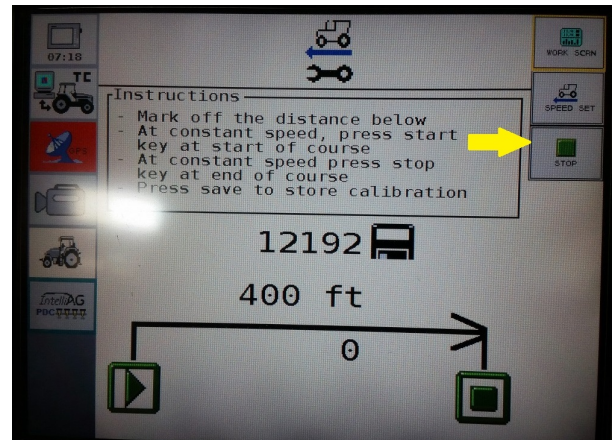

Figure 55
Step 7. Once tractor reaches end of 400 ft course, press **Stop**. (Figure 55)